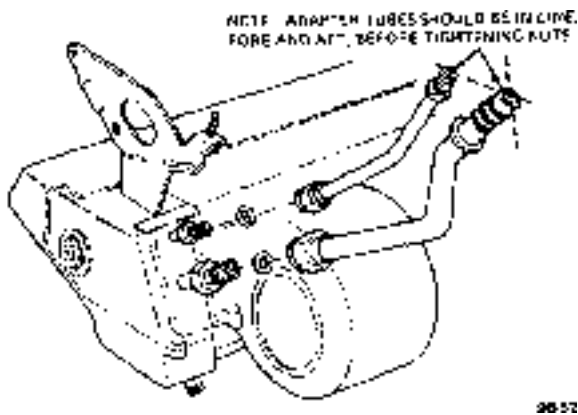

Figure 9B-71 Inlet and Outlet Pipes and O-Rings - Opel 1900 Manta
5. Install resistor assembly and electrical connector. Install blower motor connector. See Figure 9B-69.
6. Install assembly into car carefully guiding evaporator pipes up through cowl opening. See Figure 9B-71.
7. Install two (2) upper attaching evaporator attaching nuts. See Figures 9B-66 and 9B-67.
8. Install two (2) attaching case mounting bracket to instrument panel screws. See Figure 9B-67.
9. Connect two (2) drain hoses underneath evaporator.
10. Install evaporator inlet and outlet pipes retainer and rubber grommet. See Figure 9B-65.